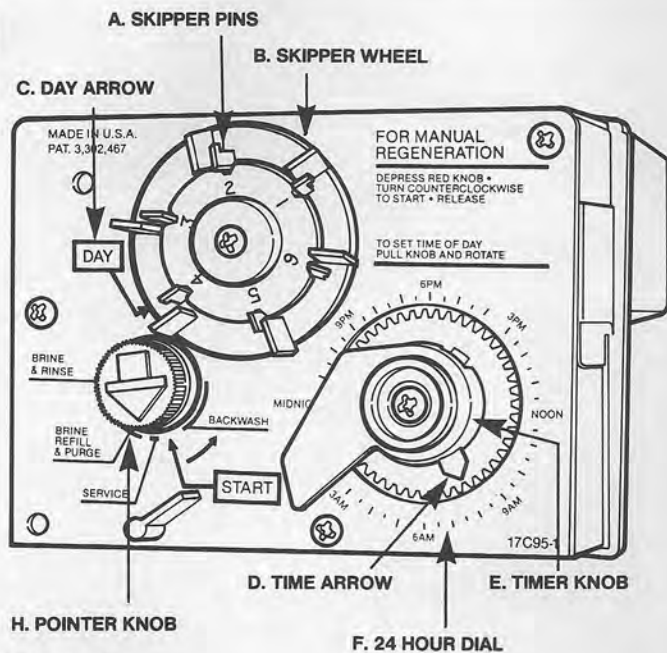

Figure 8
The following steps will require your turning the red pointer knob (H), (Figure 8), to various positions. Insert a wide blade screwdriver into arrow slot in pointer knob (H) and press in firmly. With knob held in, rotate **COUNTERCLOCKWISE ONLY** until arrow or knob points to desired position. (Rotation is made much easier if you grasp the camshaft with your free hand and turn it at the same time.) Then permit knob to spring back out.
B. Insert screwdriver into slot in pointer knob (H), (Figure 8). Press in and rotate knob **COUNTERCLOCKWISE** until arrow points directly to the word **BACKWASH**.
- A. Set days of regeneration on skipper wheel (B) (Figure 8). Pull all skipper pins (A) outward (away from control). Rotate skipper wheel until day arrow (C) points to current day, or number 1. Depress skipper pin(s) (A) at day(s) for which regeneration is desired.
- B. Set the time-of-day of REGENERATION. Grasp timer knob (E) and pull outward. Rotate in either direction until actual time-of-day on time dial (F) is in line with time-of-day arrow "D". Release timer knob (E).